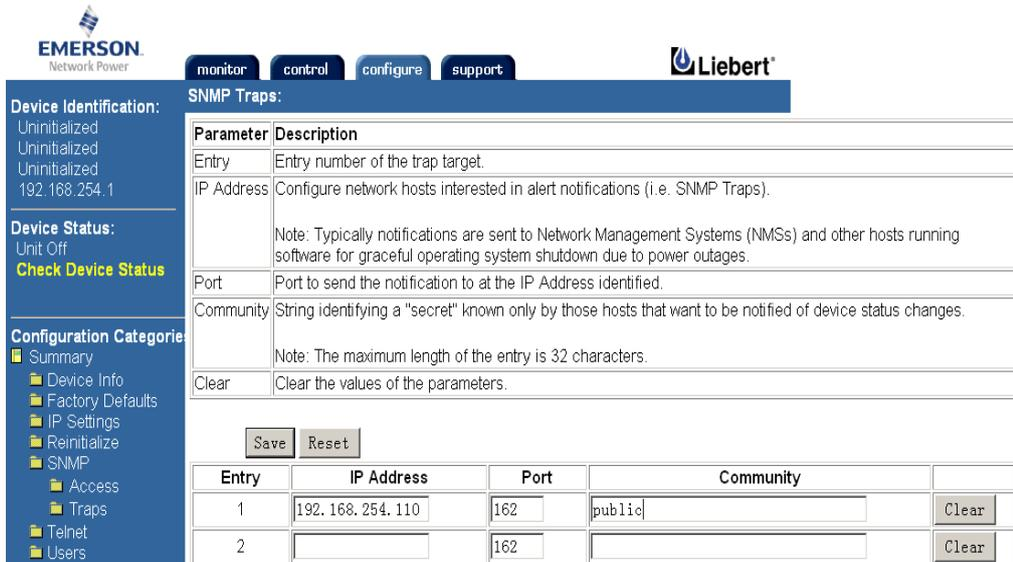

Figure 6-13 NMS configuration interface of SNMP host monitoring center (2)
5. Expand the **SNMP** node at the left side of the interface shown in Figure 6-13 and click **Traps** to set **IP Address**, **Port** and **Community** of the NMS used for receiving Traps. After modifying, you must click **Save** to save the setting.